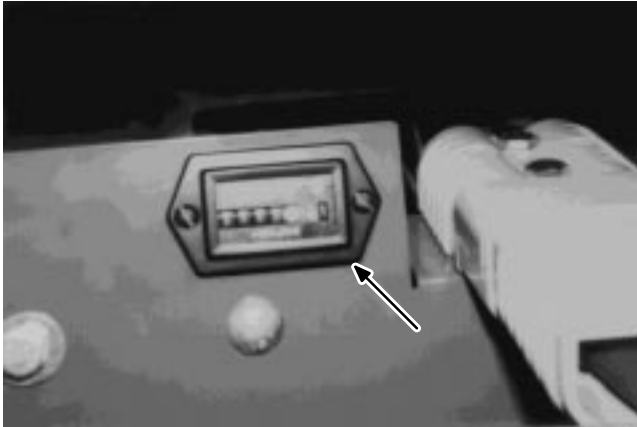

FIG. 12.
1. Your machine has an hour meter located inside the battery compartment next to the machine connector (*Figure 12*).